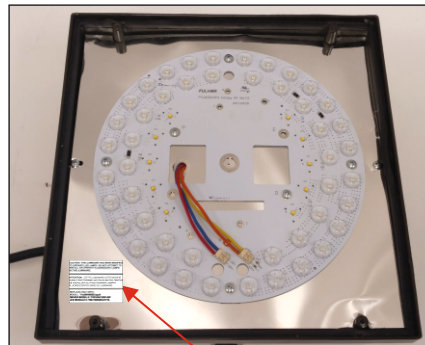

Figure 11
9. Place the provided labels on the luminaire in a readily visible location to anyone attempting to service the luminaire. See figure 11.